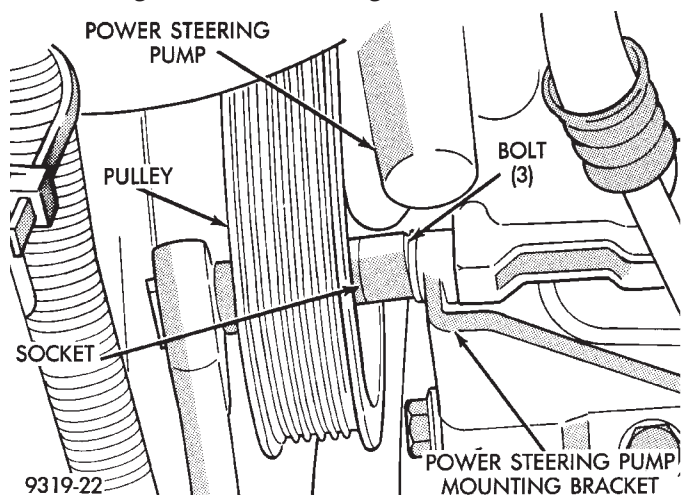

**Fig. 5 Power Steering Pump Mounting Bolts
(7) Loosen and remove the 3 bolts attaching the power steering pump to power steering pump bracket (Fig. 5). Access to power steering pump mounting bolts is through holes in power steering pump drive pulley (Fig. 5).
(2) Install power steering pump back on mounting bracket. Install the 3 bolts attaching the power steering pump to the mounting bracket (Fig. 5). Torque power steering pump mounting bolts to 54 N•m (40 ft. lbs.).